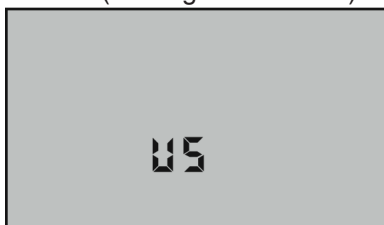

Figure 13
3. Press  to change. Display will now indicate other format (see Figures 13 & 14).